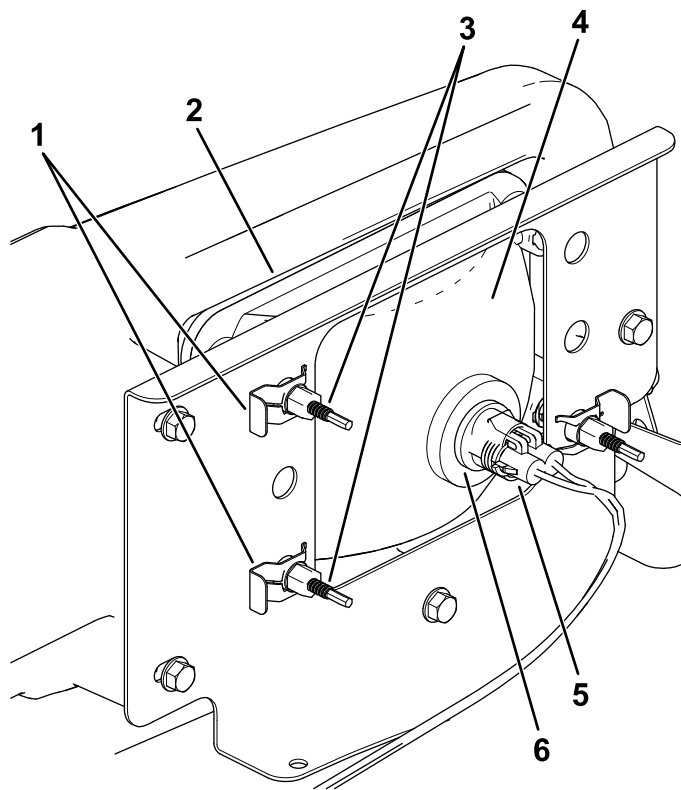

Figure 51
3. Disconnect the electrical connector for the harness from the connector of the lamp assembly (Figure 51).
4. Remove the speed clips that secure the headlight to the headlight bracket (Figure 51).
5. Remove the headlight assembly by moving it forward through the opening in the front bumper (Figure 51).
6. Install the new headlight through the opening in the bumper (Figure 51).
8. Connect the electrical connector for the harness to the connector of the lamp assembly (Figure 51).
5. At the back of the headlight assembly, rotate adjustment screws (Figure 51) to pivot the headlight assembly and align the position of the cast beam.